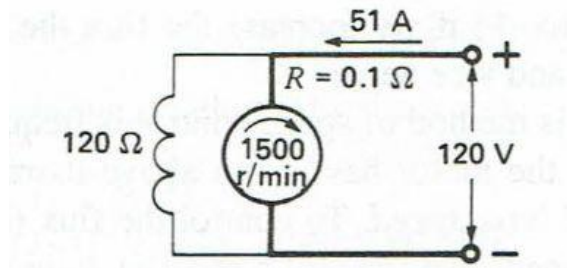

Figure 1 A shunt DC motor
- (d) A shunt DC motor rotating at 1500 r/min is fed by a 120 V source as shown in Figure 1. The line current is 51 A and the shunt-field resistance is 120 ohm. If the armature resistance is 0.1 ohm, calculate the following: